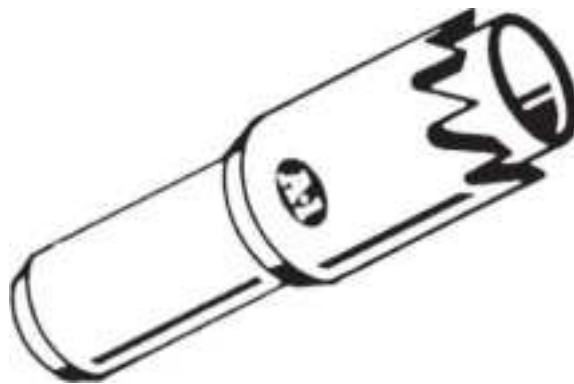

**Figure 2.28** A tubular key lock saw is used to drill through the tumblers of tubular key locks. (*A-1 Security Manufacturing Corp .*)
- Tubular-key lock saw (Fig. 2.28 )